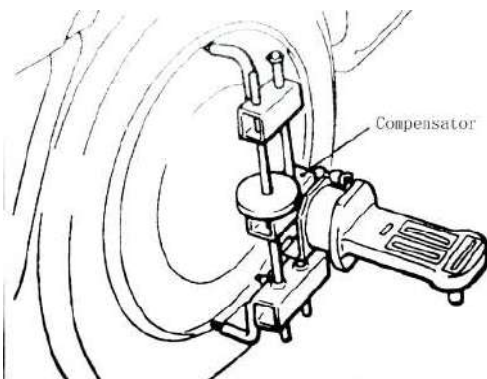

Fig.14A-2
- 2) For vehicles with aluminium wheels, attach the camber/caster gauge by using a compensator or special tool(MB991004). The special tool must be tightened to the drive shaft to the same torque $226 \pm 49 \text{N.m}$ as the drive shaft nut. (Fig.14A-2)